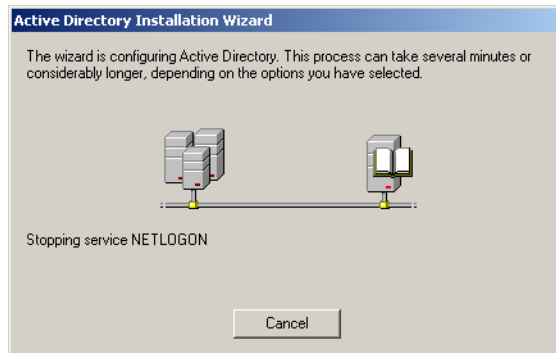

Figure D-38 Active directory installation wizard screen
21. The Active Directory Installation Wizard screen shown in figure D-38 will be displayed while Microsoft Windows configures your server.